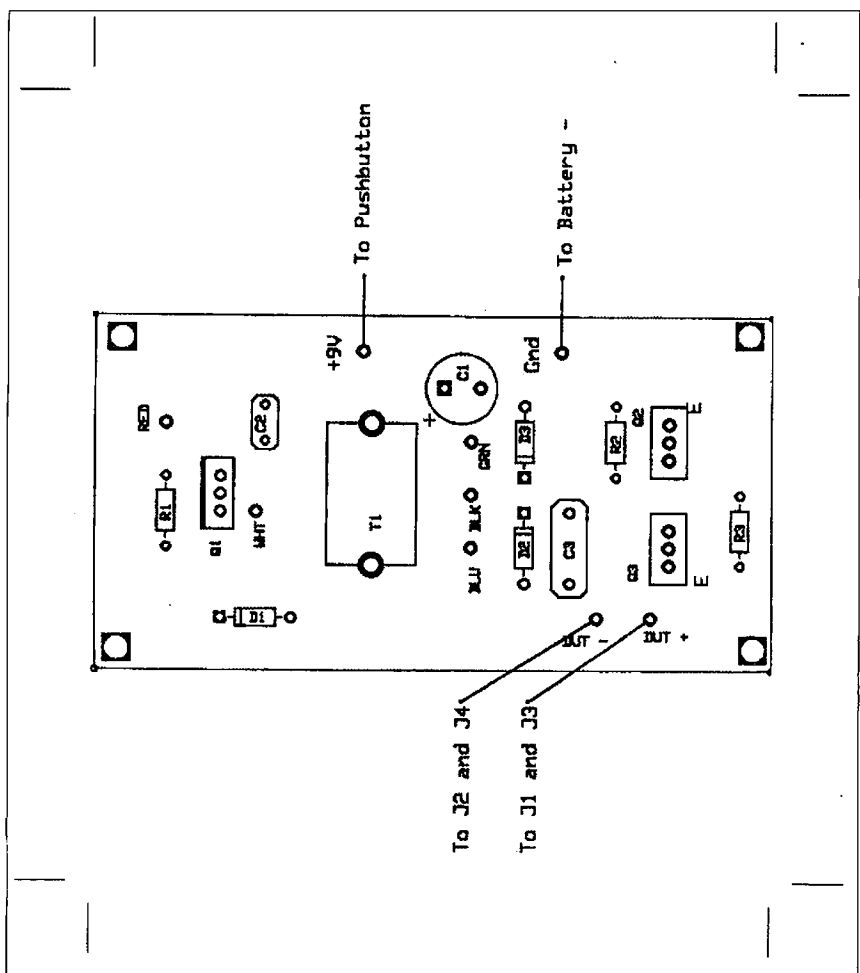
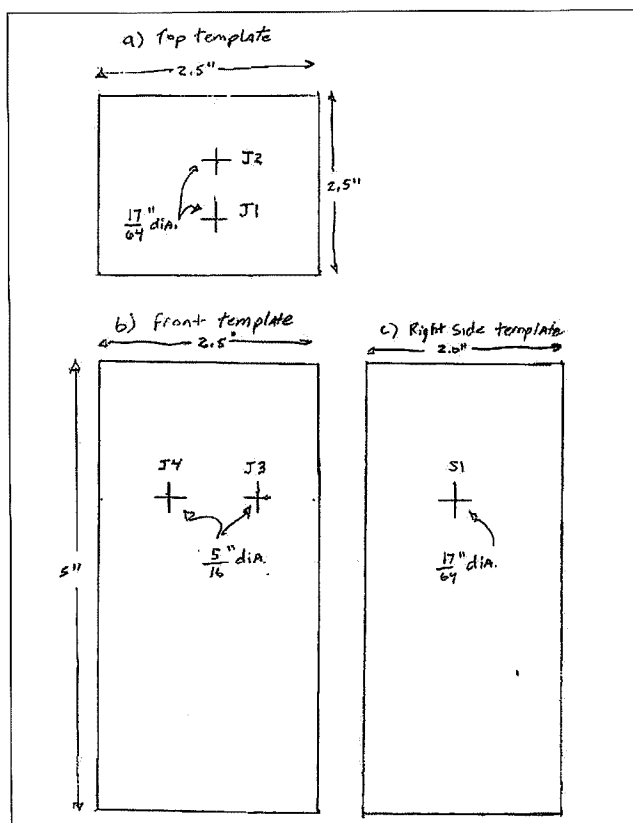
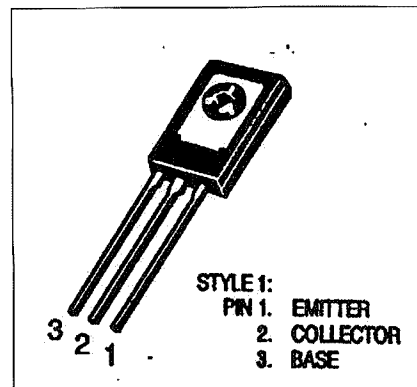

Fig. 3. Component placement diagram.
Fig. 4. Drill template: (a) top template, (b) front template, (c) right side template.
Fig. 5. Transistor designations.
board (PCB) artwork for the tester. Component placement is given in Fig. 3. Part values are referenced in Table 1. First, install the resistors and diodes in the PCB. Then mount the capacitors and transistors. Note that Q2 and Q3 are facing opposite directions. For proper mounting, examine the pin designations of the MJE340 in Fig. 5 and the emitter (E) marking in the component placement diagram in Fig. 3. After Q2 and Q3 are installed, mount the transformer to the circuit board by inserting T1's
mounting tabs into the PCB and then bending them at right angles. Pads on the PCB are marked RED, WHT, BLU, BLK, and GRN (refer to Fig. 3). T1's color coded wires are soldered to each corresponding solder pad.
Obtain a 1x copy of the drill templates shown in Fig. 4. Cut them out and tape to the case. Next, mark the location of the holes with a punch. Remove the patterns and then drill the
holes in the case as shown in Fig. 4. Solder six inches of red wire to J1 and six inches of black wire to J2. Then, mount these connectors in the appropriate holes in the case. Mount J3 and J4 to their holes in the lid. Examine Fig. 3 for the connections of the test jacks. Solder the red wire attached to J1 to J3.